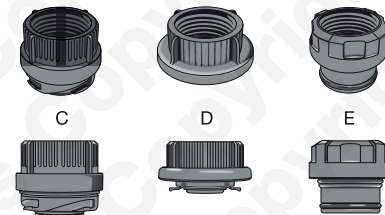

Fig 3
- Choose the correct adaptor for your engine. Refer to Figure 3: there are three adaptors in the kit. Adaptor C is a twist-type that fits most recent VAG; adaptor D is a clip-type that fits BMW, Mercedes-Benz and VAG; adaptor E is a knob push-fit type that fits VAG 1.5 litre petrol engines.